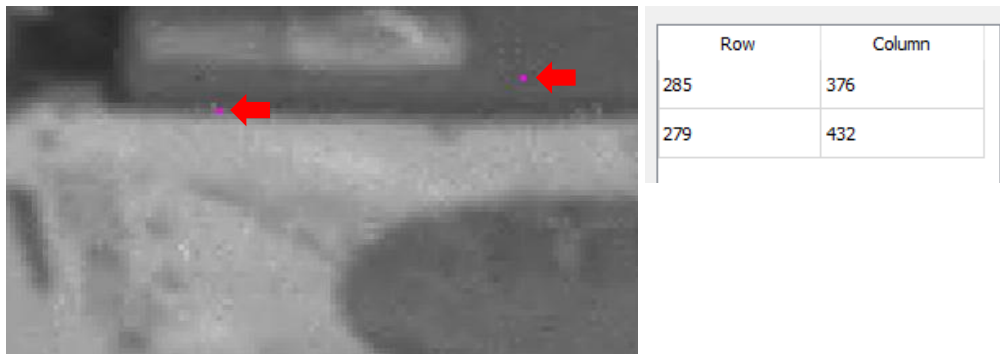

Figure 17: Example - Locating Dead Pixels
4. To delete or remove any of the selected pixels (magenta pixels) from the current list click on them again, they will turn blue in color as shown in **Figure 17**.